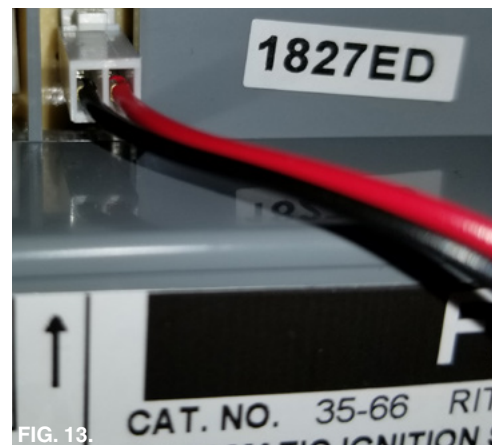

FIG. 13.
12. Connect the red/yellow wire coming out of the multi-pin connector to the red/yellow wire coming from the PCBA as shown in Fig. 13.
12. Connect the Red and Black cable from the PCBA to the ICM if you have the Flame sense cable. Otherwise, connect the wire adapter 476213 with Red and Black cable and LED to the ICM as shown in Fig 13.